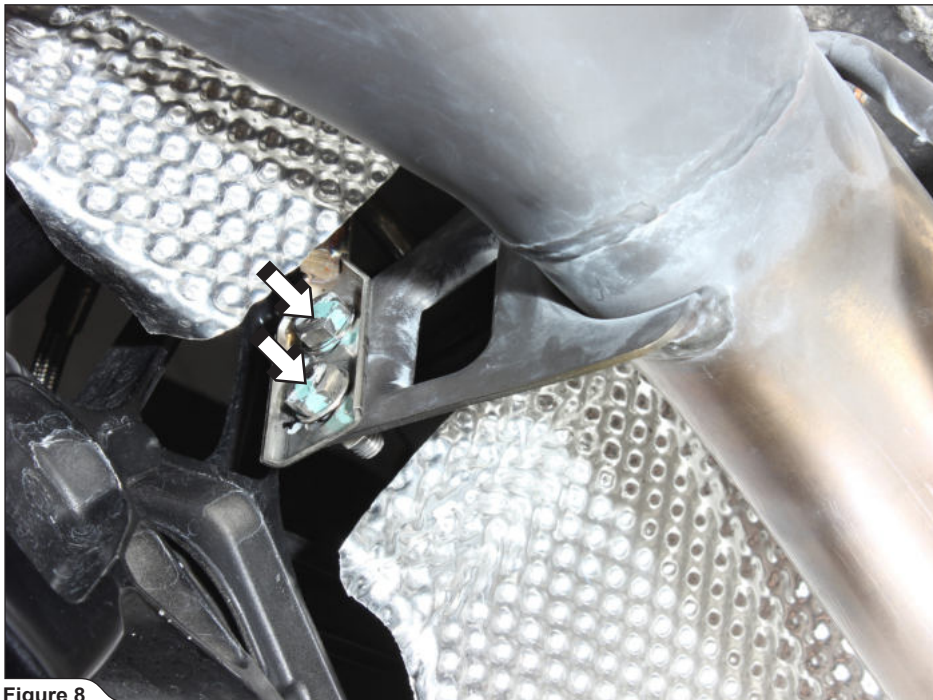

Figure 8
7. Unscrew both rear muffler's brackets and carefully remove the muffler off the vehicle (Figure 8).